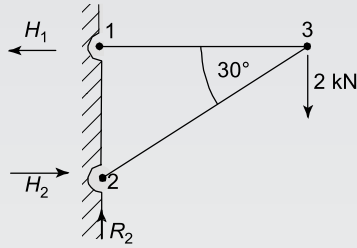

Figure RT3.1
- Determine the unknown internal forces in the pin-jointed truss of Figure RT3.1.